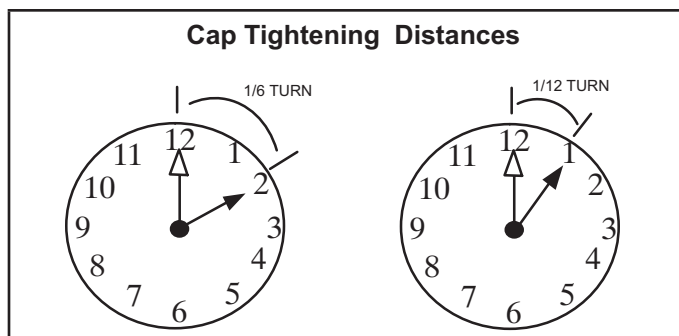

FIGURE 5
- *Without Torque Wrench:* Finger tighten and use an appropriately sized wrench to turn an additional 1/6 turn clockwise as illustrated in FIGURE 5.
- 4 - Replace the stem caps and secure finger tight, then tighten an additional one-sixth (1/6) of a turn as illustrated in FIGURE 5.